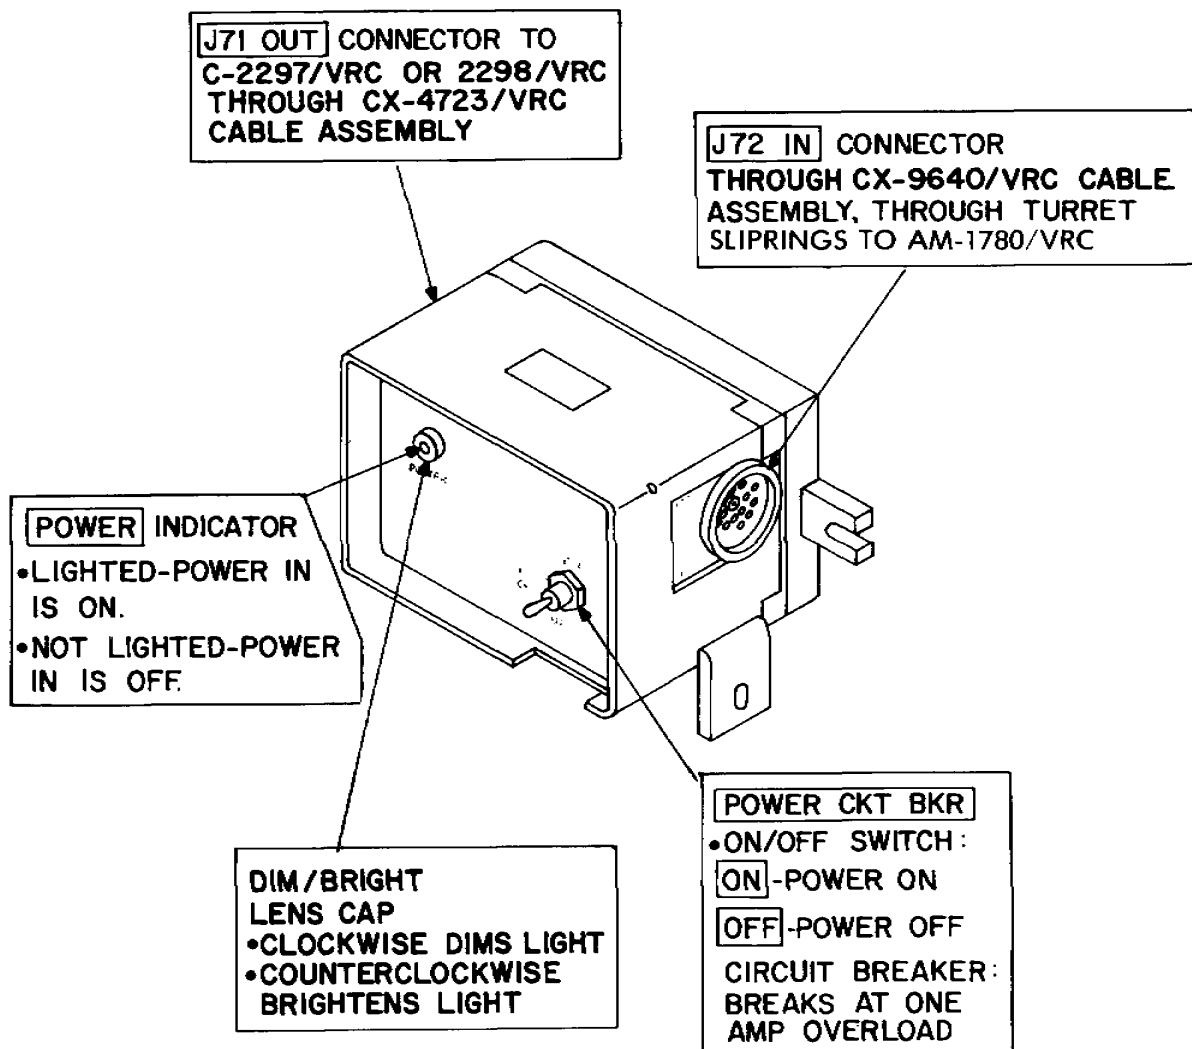

Figure 3-1. Controls and Indicators.
See figure 3-1 and table 3-1 for location and operation of the POWER CIRCUIT BREAKER, POWER indicator, and connectors J72 IN and J71 OUT.
a. Starting Procedures (fig. 3-1). Apply power to the F-1461/VRC by setting the POWER CIRCUIT BREAKER to the ON position. The POWER indicator light should go
b. Turn-off Procedure (fig 3-1). Set the POWER CIRCUIT BREAKER to the OFF position. The POWER indicator light should go OFF.